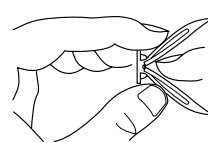

Figure 11 - Folding Anchor
13. Using wall anchors supplied in hardware package, fold wall anchor as shown in Figure 11.